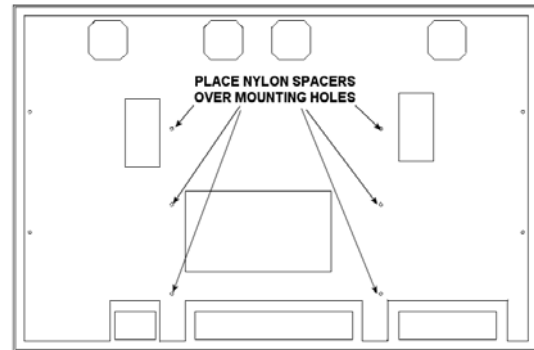

Figure 11. Spacer Location for Group 3
3. Place the Nylon spacers over the six mounting holes on your Large Flat Panel display (see Figure 11).